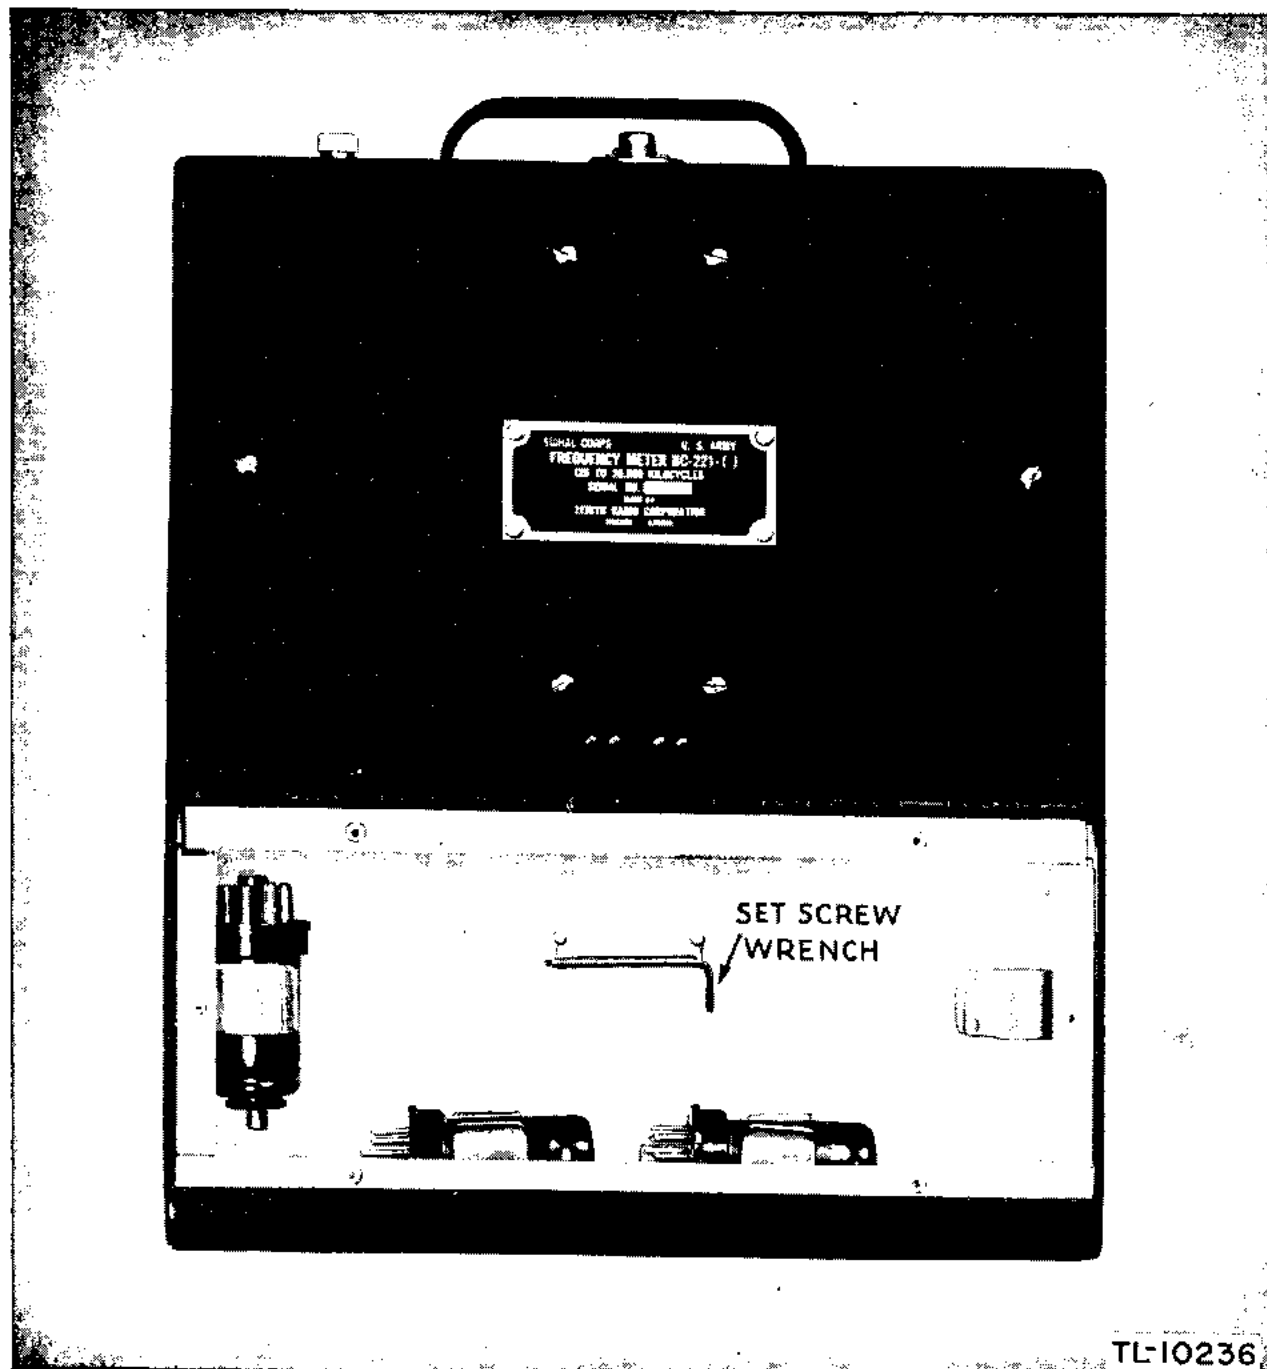

Figure 19. Frequency Meter BC-221-T, view of spare parts compartment.
b. A number of photographs covering miscellaneous views of various models are included at the end of this chapter. (See figs. 19 to 27, incl.)